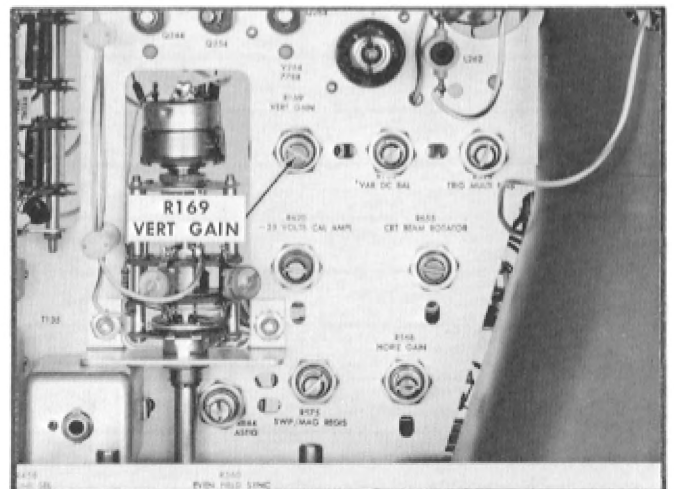

Fig. 6-11. Location of VERT GAIN adjustment.
- c. Adjust the VERT GAIN control (R169; see Fig. 6-11) to obtain exactly 140 IEEE units of vertical deflection.